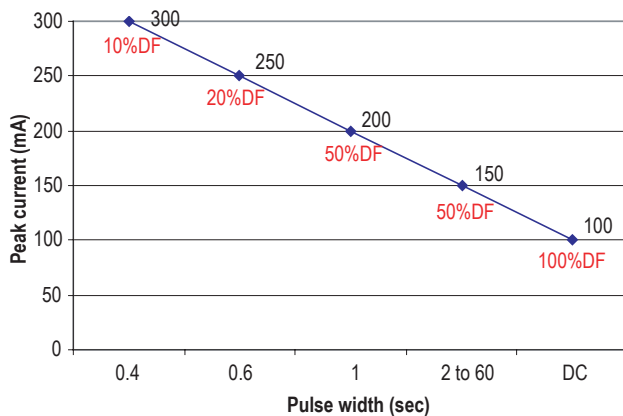
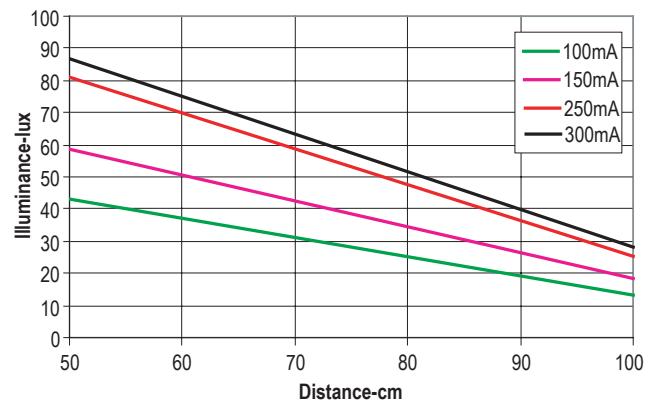

Figure 2. Maximum Peak Current vs. Pulse Width Chart
Figure 3. Illuminance vs. Distance
For example, Avago's ASMT-FW80 Flash LED can be driven up to 300mA under a 400ms pulse width to illuminate 28 lux at a 1m distance. Under normal DC conditions, the maximum allowable current is 100mA, the brightness about 13 lux. Figure 2 shows the relationship between the maximum peak current vs. the pulse width. Figure 3 shows the achievable illuminance at various current and distances.
duration as shown in Figure 2. Over driving it may cause failure to the LED or the brightness to drop quickly).
2. The required light output at different currents and at various distances as shown in Figure 3.